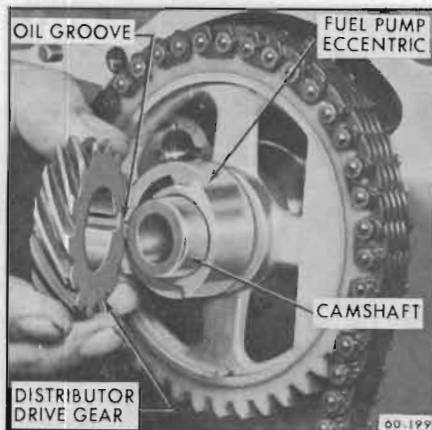

Figure 60-242—Fuel Pump and Distributor Drive Gear Installation
5. Slide fuel pump eccentric on camshaft and Woodruff key with oil groove forward. See Figure 60-242.
6. Install distributor drive gear. See Figure 60-242.